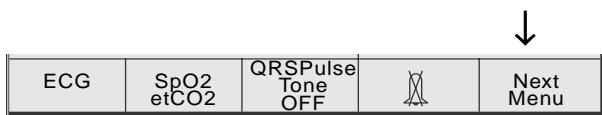

Figure 3-4. Main menu
- In the main menu, select **F5** Next Menu (Figure 3-4).